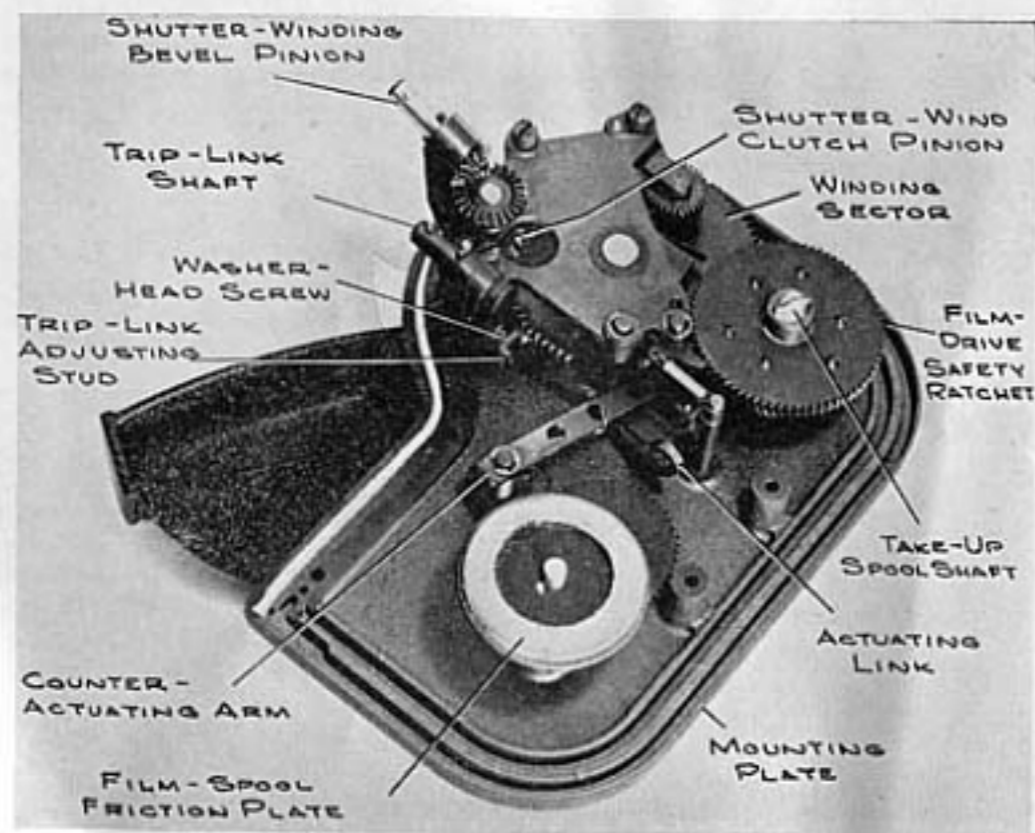

Figure 13—Mechanism Assembly
(11) Should it be impossible to make the shutter reset by turning the trip-link adjusting stud, the shutter should be removed from the camera body and examined for a reason for the failure to reset.
b. Mechanism Assembly (K20D-H2). (See figure 13.)
(1) Side Plate Assembly (K20D-H3).